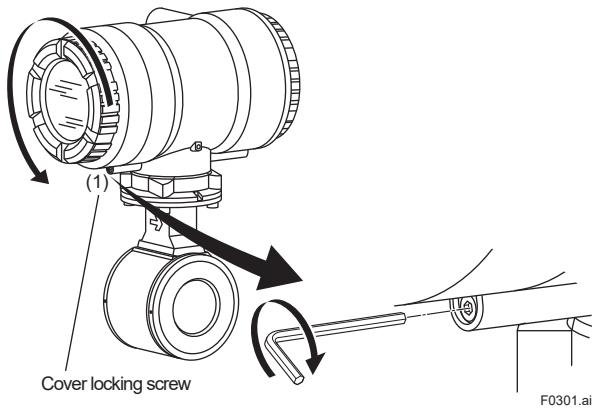

Figure 3.1.1 Removing the Display Cover
- Using the wrench, loosen the cover locking screw (1) (See Figure 3.1.1) clockwise to unlock the cover. Upon shipment from the factory the cover is locked. Hold the flowmeter with your hand. Remove the cover by rotating it counterclockwise.
(3) Installing the Cover
- Tighten cover locking screw (1) (See Figure 3.1.1) counterclockwise using a hexagonal wrench (nominal size 3) to lock the cover.